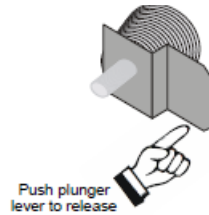

Fig 9. Front Fan Assembly Plunger Detail
1. Release the top two side plungers. Push spring loaded plunger levers to release the top of assembly (Figure 9 shows the mechanism in detail).